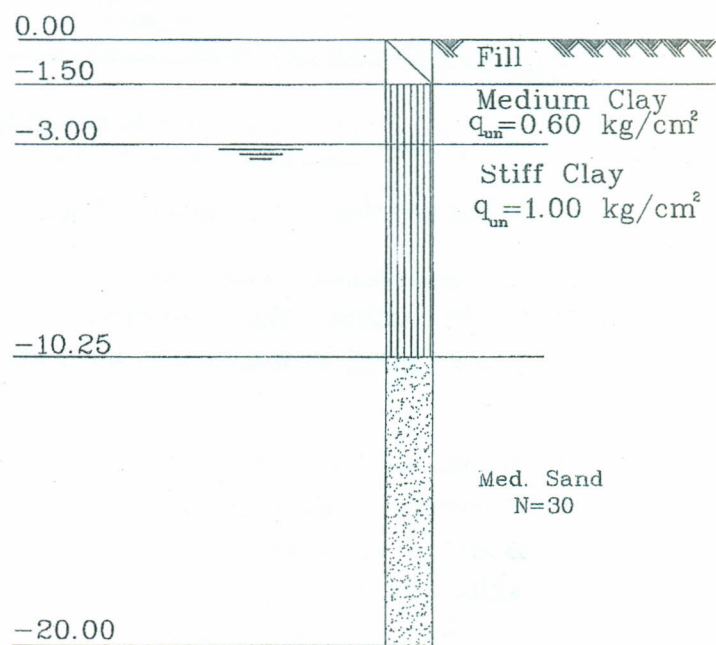

Fig.2
5. What is your foundation recommendations and choose the most suitable type of foundation for the following structures to be constructed on the soil conditions given in the borehole log shown in Fig.2.